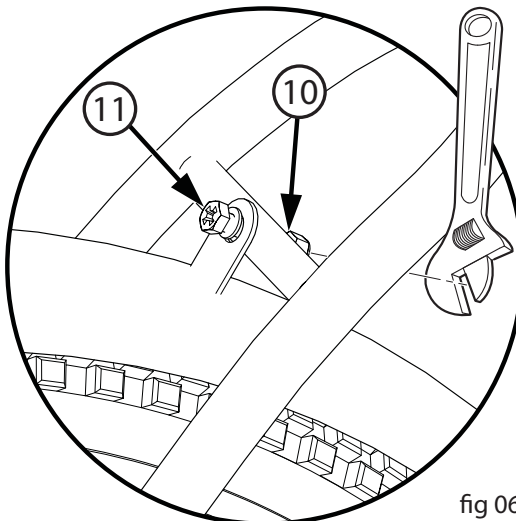

fig 06
**Note:** Top Fender mount is loose (**fig 06**) to allow installation.
3. Tighten Bolt (11) and Nut (10) securely. Make sure fender is centered over tire (**fig 06**).